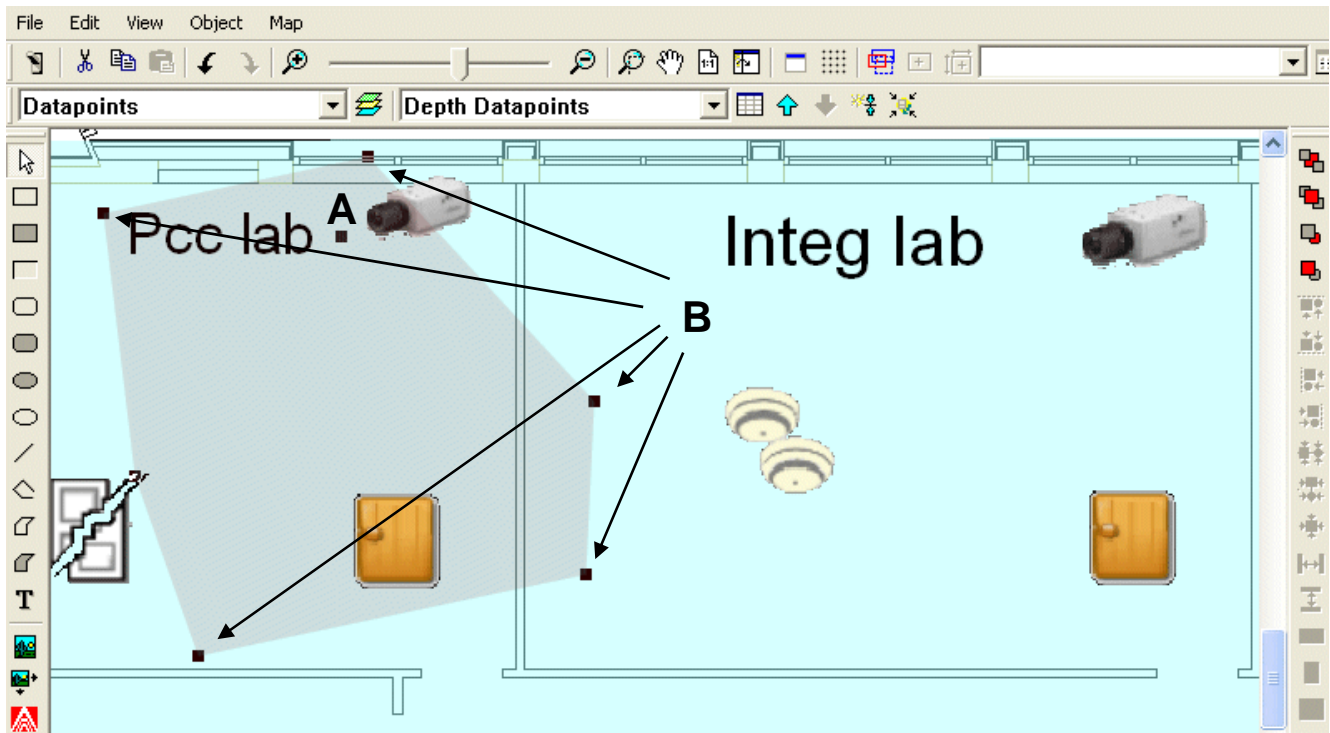

Fig. 12 Area controls
*A polygon appears indicating the camera coverage area. (See Fig. 12.)*
3. Use the interior squared dot of the polygon to move and orient the coverage area. (See "A" in Fig. 12.)
4. Use the peripheral squared dots to shape the polygon to represent the actual camera view. (See "B" in Fig. 12.)